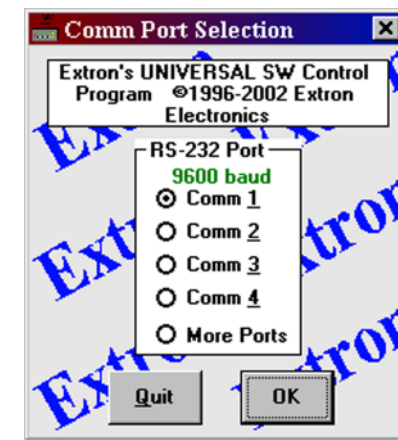

Figure 4-2 — Universal Switcher Comm Port Selection window
- In the Comm Port Selection window (figure 4-2), click on the comm port that is connected to the MMX's RS-232 port.